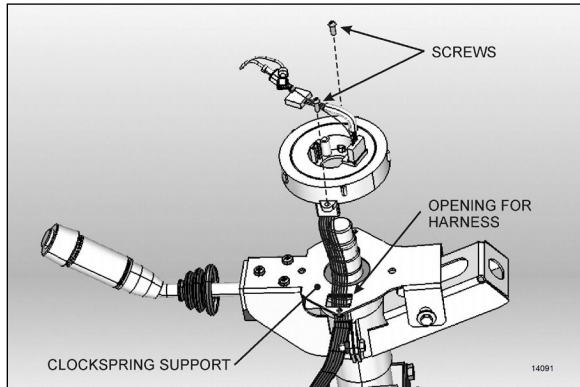

FIGURE 50: CLOCKSPRING INSTALLATION
have to disconnect the clockspring harness connector located lower along the steering wheel column (Figure 50). If necessary, remove the steering column covers.
3. Route the new clockspring harness through the opening in the clockspring support (Figure 50). Plug the connector at the base of the steering wheel column and fix harness along the steering wheel column.